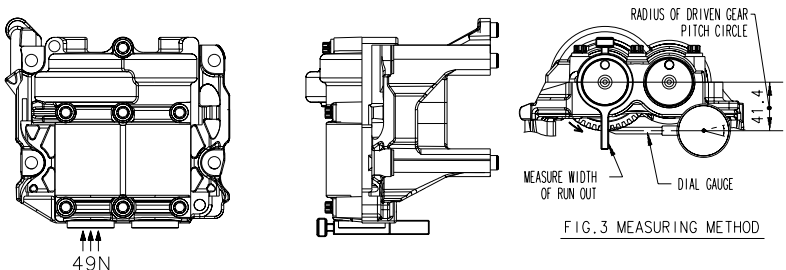

FIG. 3 MEASURING METHOD
3. AS SHOWN ON FIG. 3, SET A MEASURING NEEDLE OF DIAL GAUGE ON THE CERTAIN LOCATION OF MEASURING LEVER PERPENDICULARLY (RADIUS OF DRIVEN GEAR PITCH CIRCLE IS 41.4).